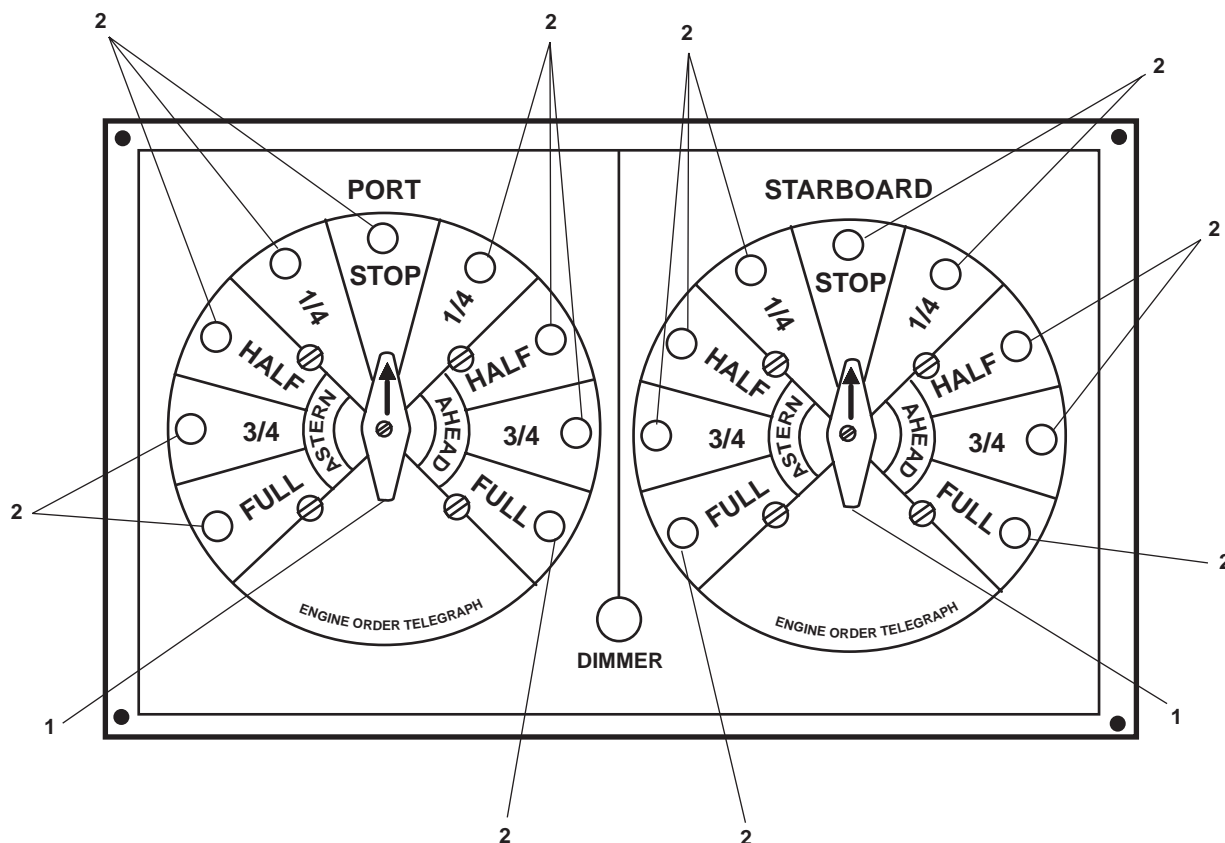

Figure 2. EOT Panel
2. In the pilothouse, order the desired speed and direction for each engine by rotating EOT selector (figure 2, item 1) to the desired position.
- a. Acknowledge order by rotating the selector(s) (figure 2, item 1) to the ordered position.
- c. In the EOS, make throttle adjustment(s) as ordered, and verify that the LED(s) (figure 2, item 2) stop(s) flashing and remain(s) lit.